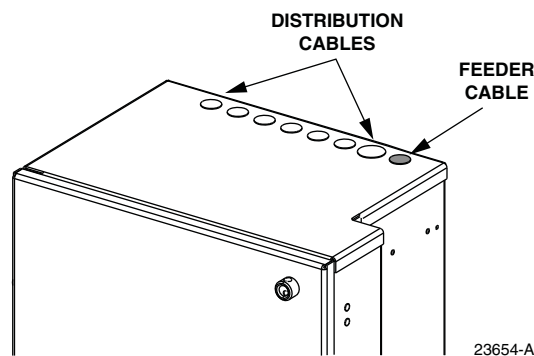

Figure 16. Cable Entry/Exit Holes
1. Locate the cable entry/exit hole (on top of the cabinet) that is specified for feeder cable installation as shown in Figure 16.